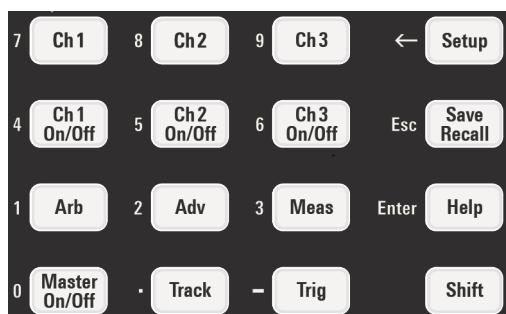

Figure 3-9: Numeric keypad
- Enter the desired value using the numeric keypad on the front panel. See Figure 3-9.